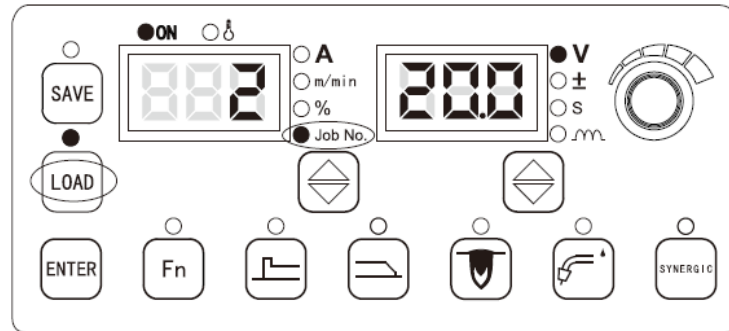

Figure 3-17 Loading parameter settings
2. Use the knob on the control panel to select a channel ID to be loaded, which ranges from 0 to 49. Then, press the **ENTER**  button. See Figure 3-17.